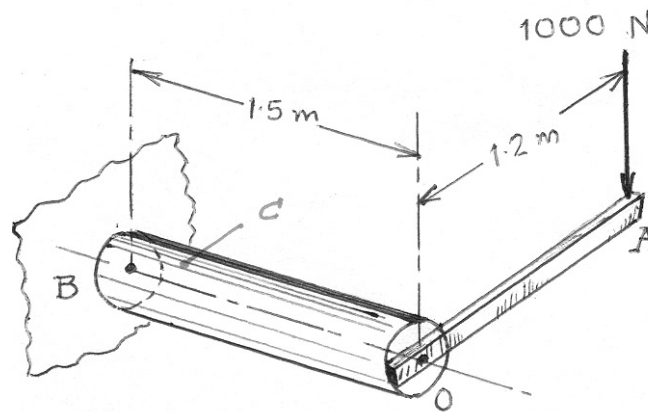

Fig. 1
10. A structural member is loaded as shown in Fig. 1. It is required to measure the strain introduced at point C, which is 1.25 m from the free end. At your disposal you have access to only rectangular rosettes. Show by neat sketches, how will you paste and connect the elements of the gauges in a Wheatstone bridge to measure the following.